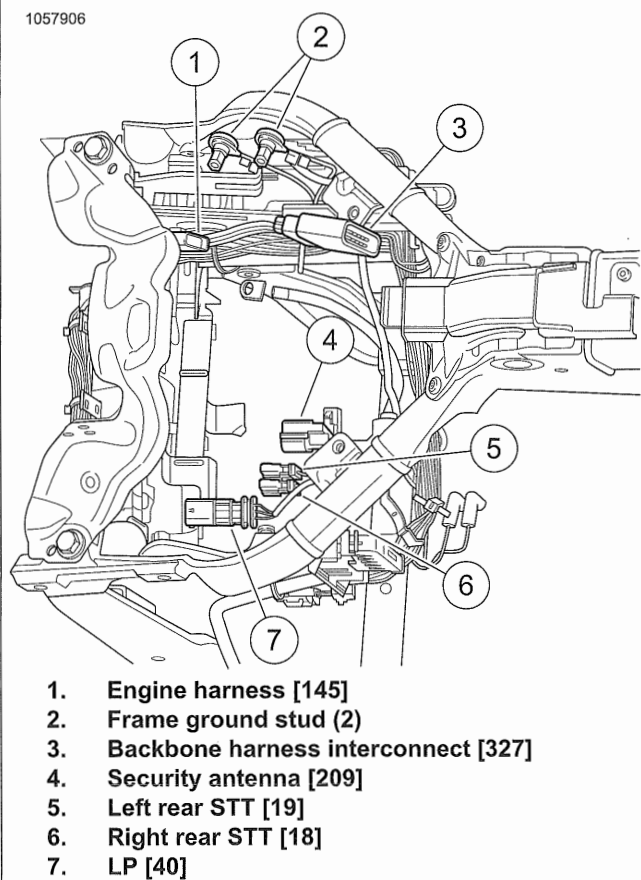
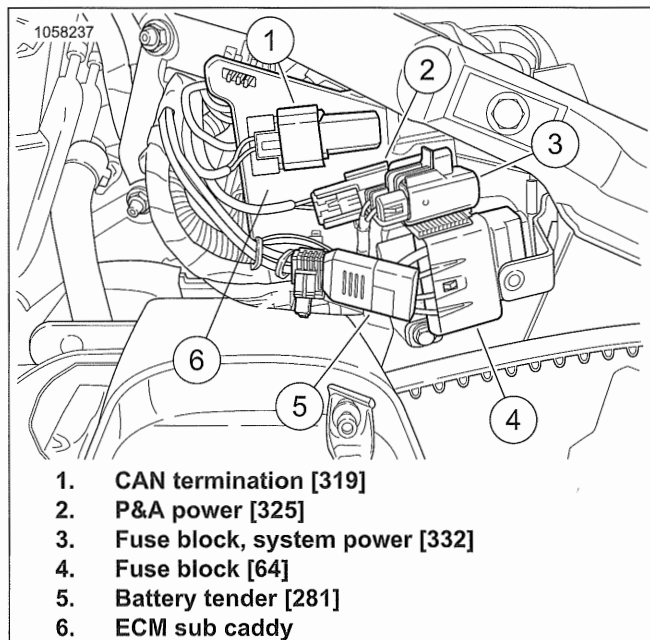

Figure 7-163. Main Harness Under Seat
Figure 7-164. Under Left Side Cover
3. See Figure 7-163. Disconnect electrical connectors under seat.
- a. Disconnect right rear STT lighting (6) and remove from rear lighting caddy.
- b. Disconnect left rear STT lighting (5) and remove from rear lighting caddy.
- c. Disconnect LP lighting (7) and remove from rear lighting caddy.
- d. Disconnect security antenna (4) and remove from rear lighting caddy.
- e. Remove both frame ground studs nuts (2). Remove shunt and all ring terminals.
- f. Disconnect engine harness (1).
- g. Disconnect backbone harness interconnect (3).
4. See Figure 7-164. Disconnect electrical connectors from left side.
- b. Remove battery tender (5) from ECM sub caddy (6).
- c. **If connected:** Disconnect P&A power (2) and remove from ECM sub caddy.
- d. Remove fuse block (4) from ECM sub caddy.
- e. Remove CAN (Controller area network) termination (1) from ECM sub caddy.
2. See Figure 7-164. Connect electrical connectors from left side.
- a. Install CAN termination (1) to ECM sub caddy (6).
- b. Install fuse block (4) to ECM sub caddy.
- c. **If needed:** Connect P&A power (2) and install to ECM sub caddy.
- d. Install battery tender (5) to ECM sub caddy.
3. See Figure 7-163. Connect electrical connectors under seat.
- a. Connect backbone harness interconnect (3).
- b. Connect engine harness (1).
- c. Install shunt and all ring terminals. Install both frame ground studs nuts (2). Tighten.
- 1. See Figure 7-164. Remove all fuse from fuse blocks.
- a. Remove fuses from fuse block [64] (4).
- b. Remove fuse from fuse block [332] (3).
- 3. See Figure 7-164. Install all fuses into fuse blocks.
- a. Install system power fuse into fuse block [332] (3).
- b. Install fuses into fuse block [64] (4).